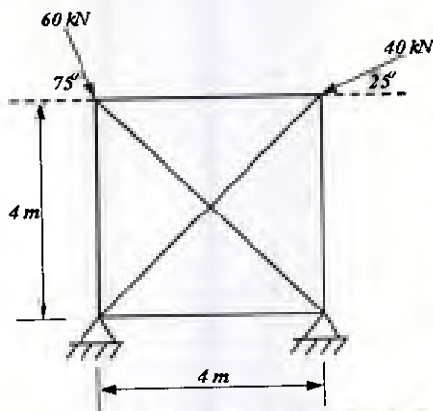

Figure 5
Q. 4. Analyse the pin-jointed frame shown in figure 5 using **Generalised Flexibility method** and hence find the forces in all the members. AE is same in all the members. 12